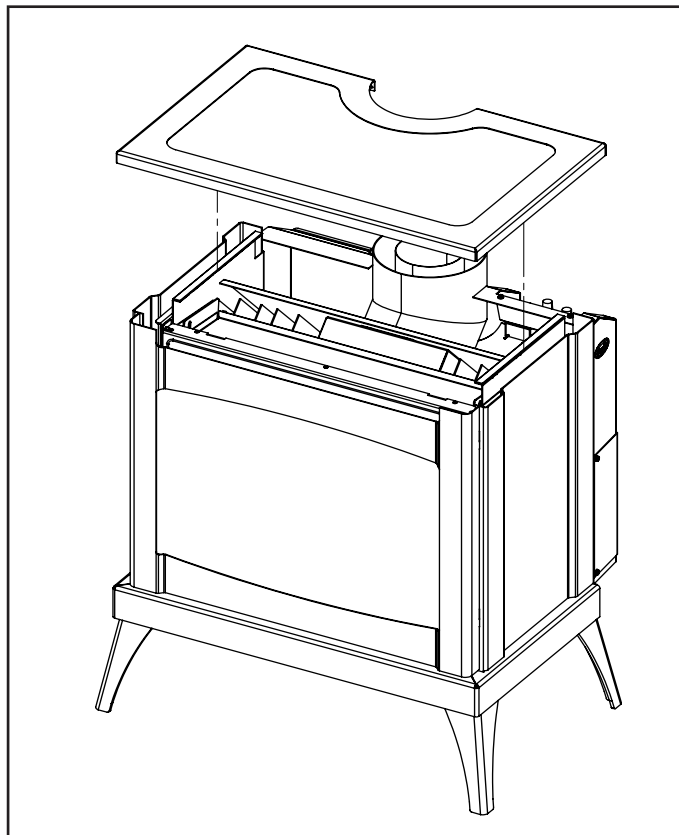

Figure 38: Removal of Stove Top
1. Carefully remove the stovetop and place on a soft surface as not to damage the painted finish (see Figure 38).